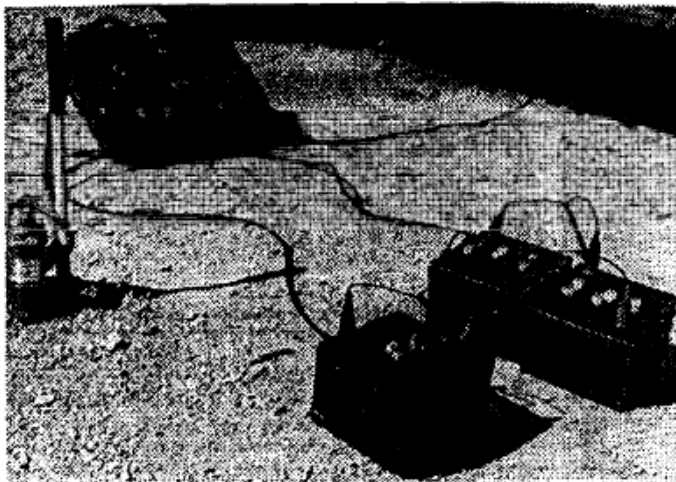

Figure 3-20
- (5) 12 Volt and 24 volt charging hookup operating at the same time (Figure 3-20).